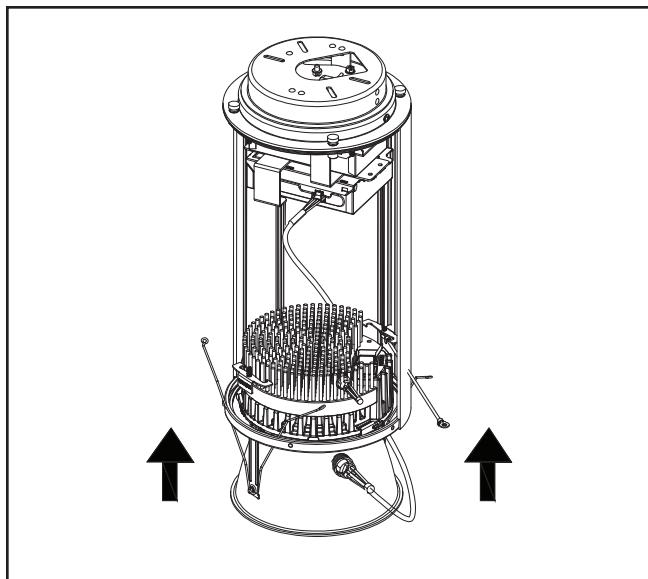

Figure 13
5. After connecting cable into the battery pack install the trim module assy into the cylinder (follow standard installation instructions). (Figure 13)